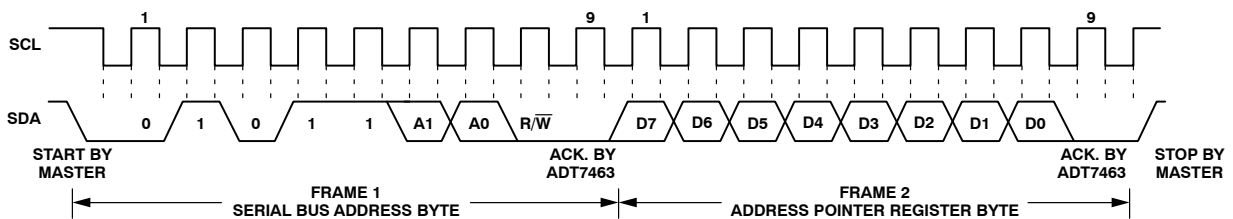
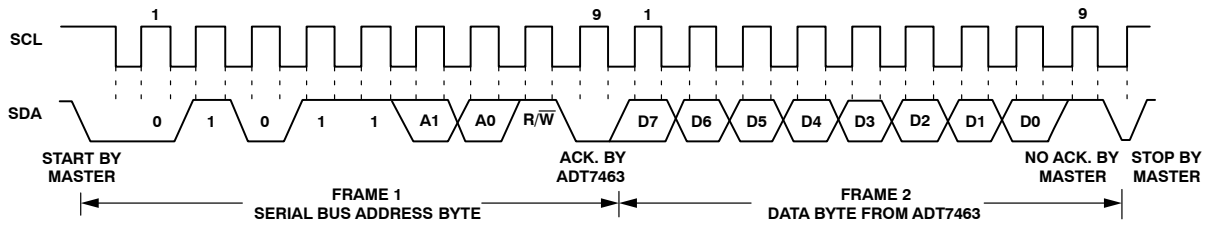

Figure 18. Writing to the Address Pointer Register Only
Figure 19. Reading Data from a Previously Selected Register
1. If the ADT7463's address pointer register value is unknown or not the desired value, it is first necessary to set it to the correct value before data can be read from the desired data register. This is done by performing a write to the ADT7463 as before, however, only the data byte is sent and this contains the register address. This is shown in Figure 18. A read operation is then performed consisting of the serial bus address, R/\overline{W} bit set to 1, followed by the data byte read from the data register. This is shown in Figure 19.
2. If the address pointer register is already at the desired address, data can be read from the corresponding data register without first writing to the address pointer register, so Figure 18 can be omitted.